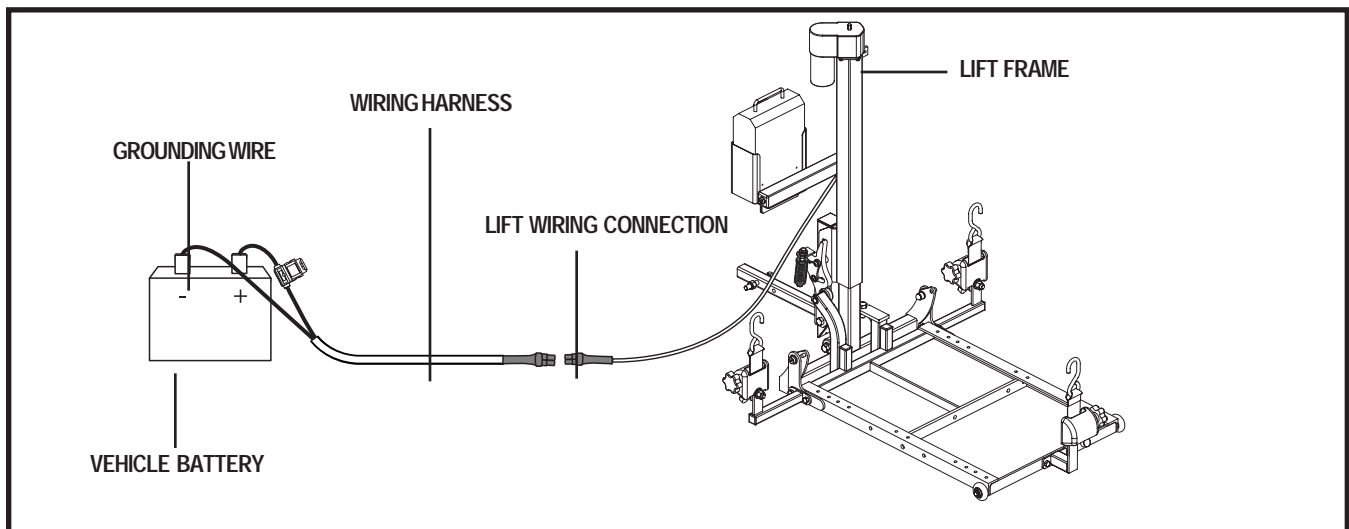

Figure 6. Wiring Harness Installation
1. Route the lift system wiring harness (starting at the lift) through the interior of the vehicle until you reach the vehicle battery. See figure 6. You will typically find pass through points at the rear lighting assemblies, which will enable you to route the cable through the trunk and under the back seat.